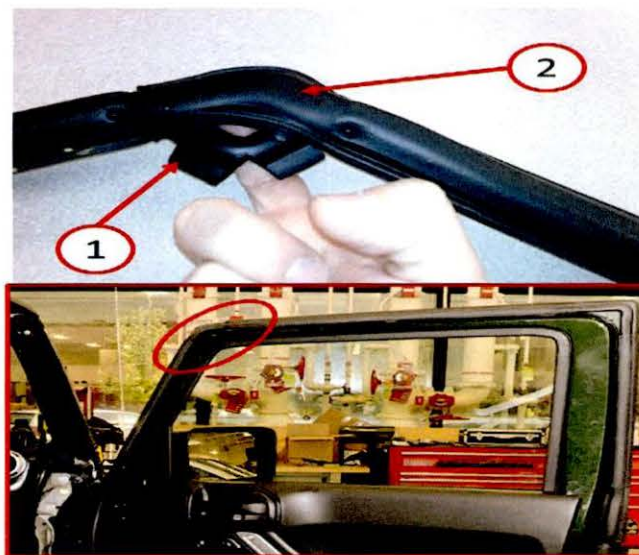

**Fig. 10 Door Weatherstrip Removal**
17. Remove the suspect door upper weatherstrip seal (1) at the A pillar upper corner, from metal channel (2) enough to gain access to stuffer access slot (Fig. 10).